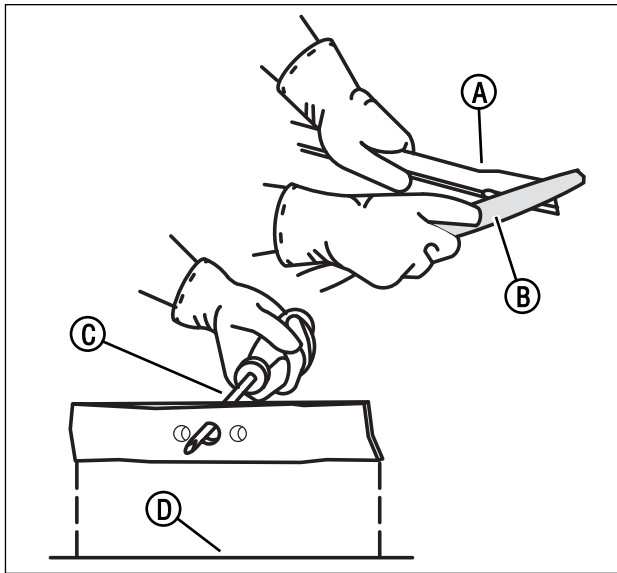

Figure 28: Sharpening the blade
4. Sharpen the blade (**A, Figure 28, next page**) with a file (**B**). Make sure you keep the original beveled cutting edge (Figure 30).